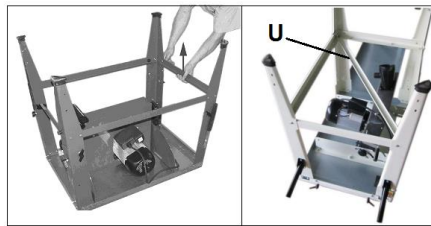

Fig 3
Insert the short crossbeams (Fig 3) and tighten the nuts.
The Support Bracket (U) install as Fig.3